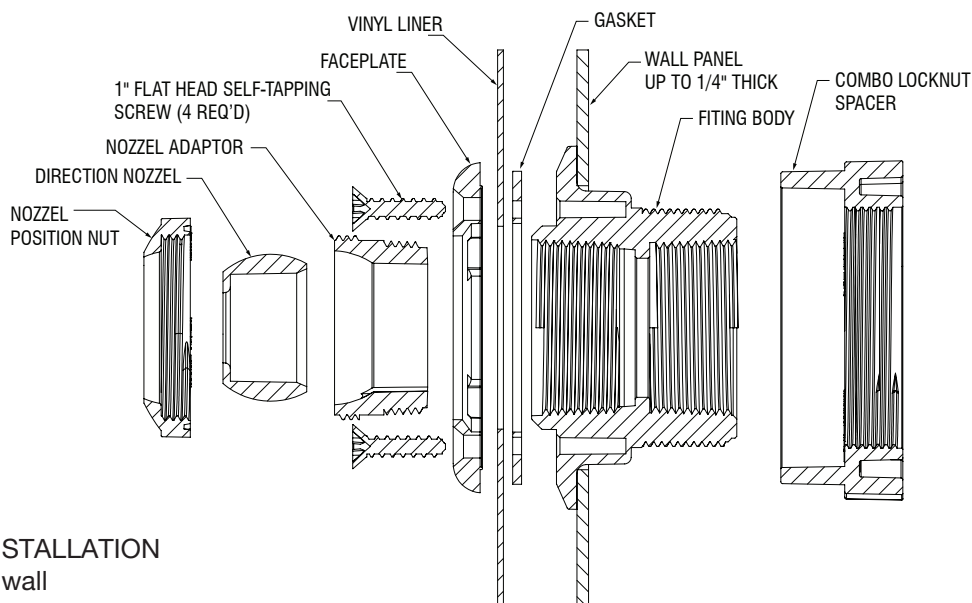

FIGURE 3
3. Install the return fitting body in the hole from the inside of the pool wall. Install the fitting with the locator (notch in the gasket) upwards, in the 12 o'clock position. This will allow to easily locate the (4) installation screw holes when the liner is covering them. The under surface of the flange needs to be sitting flush against the wall of the pool. If the pool wall is not more than $\frac{1}{4}$ " thick, install and thread the locknut onto the fitting body with the octagon side opposite to the pool wall (fig. 3). Tighten the locknut firmly by hand until it is set firmly against the pool wall. Then tighten the locknut $\frac{1}{2}$ a full revolution using a channel lock or any other suitable tool.